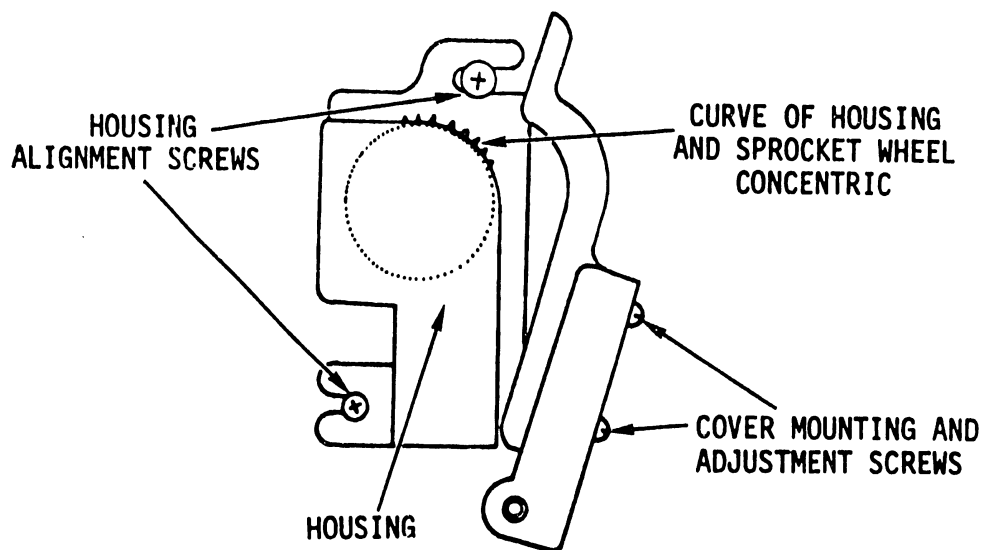
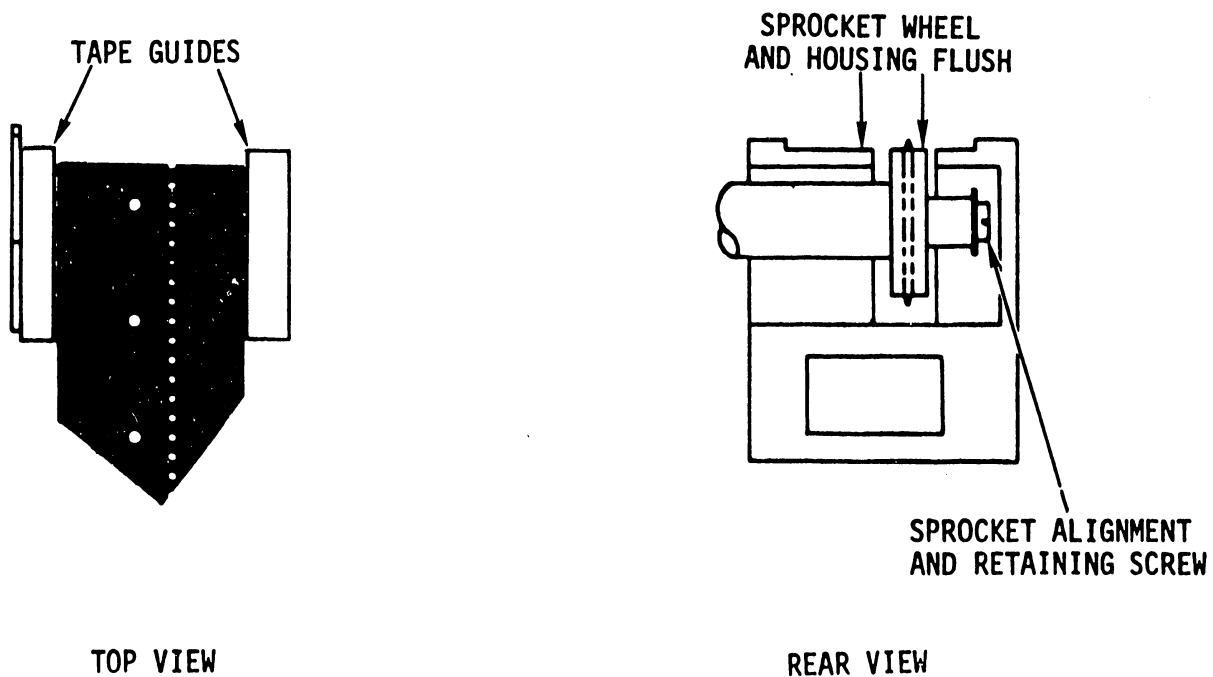

FIGURE 5-22 VERTICAL FORMAT HOUSING ADJUSTMENTS
FIGURE 5-23 VERTICAL FORMAT SPROCKET ALIGNMENT
- 1) The sprocket and tape housing are separate parts, hence with cover open, loosen the two screws holding the housing (Figure 5-22). Move the housing so that the base of the sprocket is flush with the housing. See Figure 5-23 Rear View.
- 3) Adjust the tape side to side by turning the retaining screw (Figure 5-23). Course adjust by getting the tape somewhere between the two side guides. Fine align during the following steps.
- 6) Replace the format tape and close the cover. With probes attached as in step 4, key Top of Form continuously. The signals should be at least +4 volts on each channel. If not, fine adjust the retaining screw of the sprocket (Figure 5-23). This moves the punched tape side to side.